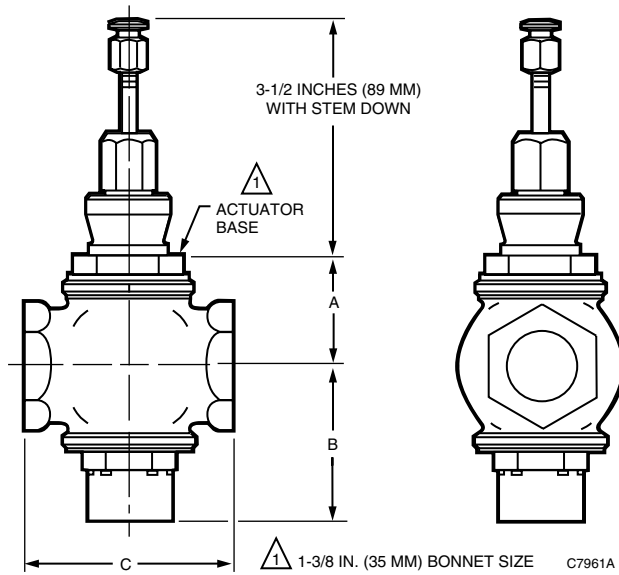

Fig. 2. V5013F Threaded Body Dimensions.
|                    | V5013FFig. 2 | 1/2         | 1-3/4 (44)     | 2-5/8 (67)   | 3-1/2 (89) | -        | -           | -           |